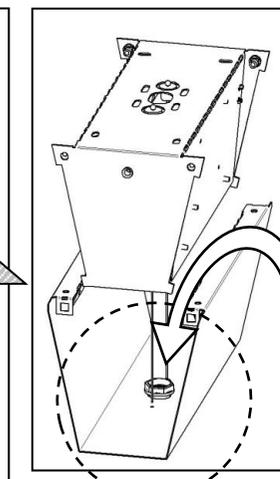

Fig. 6
6. Working from inside, pass the suspension wires down through the small holes in the ceiling rose cover. (fig. 6)